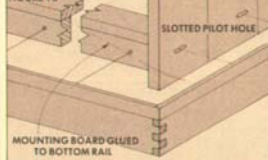

FIGURE 11
**ATTACHING THE TOP.** The same precaution taken for attaching the fillets and the plinth also applies to the top. Pilot holes are drilled through the front rail to screw (no glue) the top in place. However, the pilot holes on the back rail should be slotted, see Fig. 11.